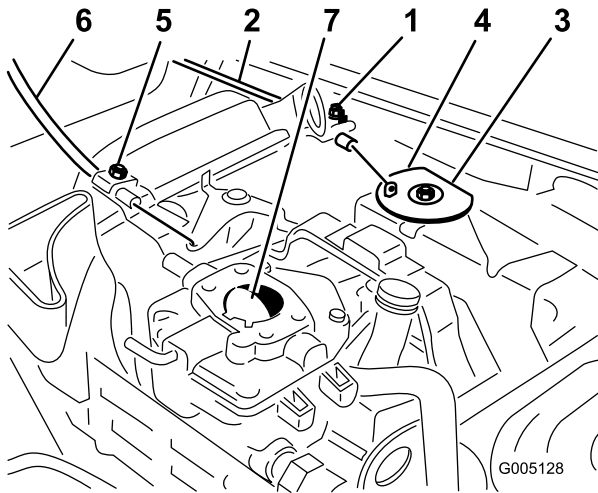

Figure 50
1. Loosen the cable clamp screw securing the cable to the engine (Figure 50).
3. Pull firmly on the throttle cable until the back of the swivel contacts the stop (Figure 50).
3. Pull firmly on the choke cable until the choke butterfly is completely closed, then tighten the cable clamp screw (Figure 50).